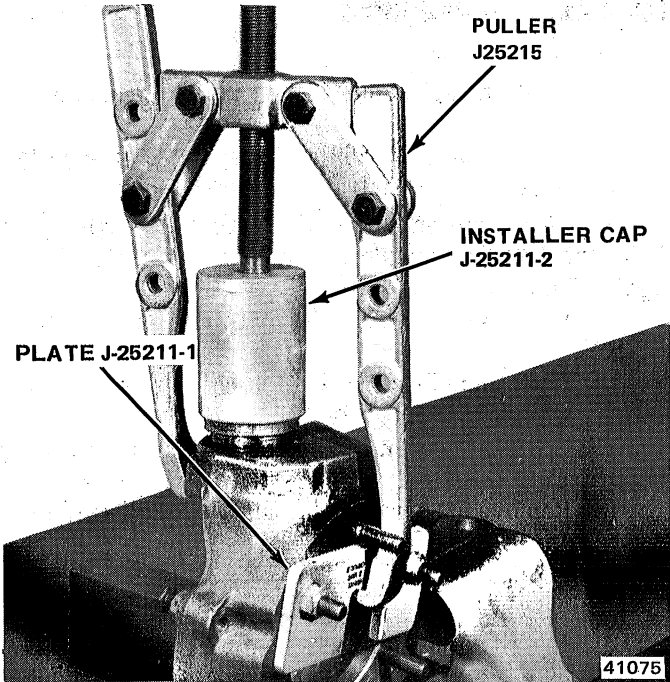

Fig. 2F-11 Upper Ball Stud Installation
- (6) Tighten puller screw to press ball stud into steering knuckle (fig. 2F-11).
- (7) Remove upper ball stud installation tools.